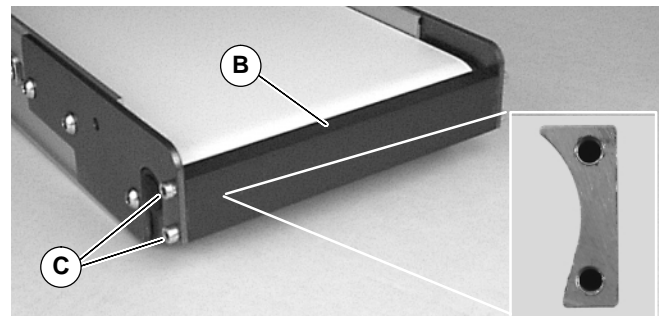

Figure 12
- Tighten screws (K) to 71 in-lb (8 Nm)
- Tighten screws (L) to 28 in-lb (3 Nm)
9. Install transfer plate (B of Figure 12) with the wide side up (see detail). While maintaining clearance between transfer plate and conveyor belt, tighten screws (C) to 36 in-lb (4 Nm).